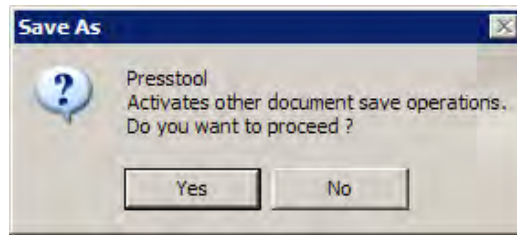

Figure 11-92 The *Save As* confirmation box
3. Choose the **Save** button from the **Save As** dialog box. The **Save As** confirmation box is displayed, as shown in Figure 11-92.